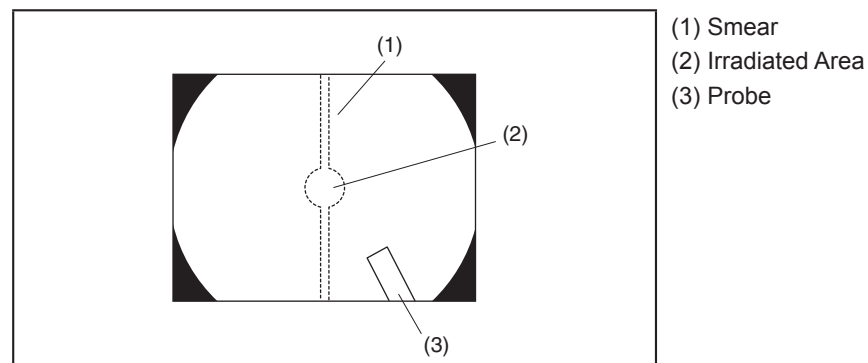

Figure 3.11
- 10) Should the distal tip of the endoscope be moved closer than 20mm from the irradiated tissue surface, the aiming beam may create a “smear” in the image as shown in figure 3.11. If this smear affect becomes too severe and distorts the visual field, the intensity of the aiming light should be decreased.